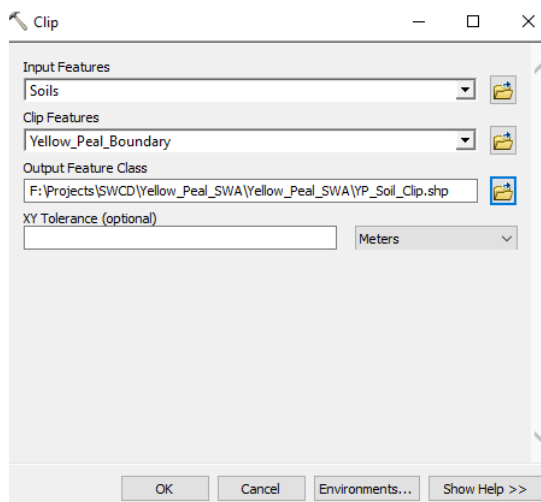

Figure 34. Clipping Shapefiles
- Input Feature (Figure 34) will be the layer that you want to clip down to your assessment area.